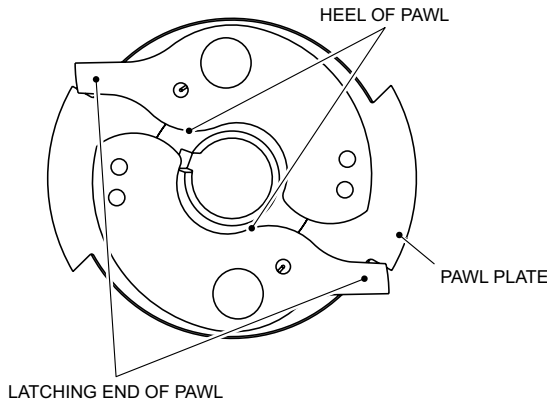

Figure 3.3.4C
- 11. Measure the clearance between the boss on the underside of each (2) impulse pawl and the pawl plate using a feeler gage. Position the latching end of the impulse pawl over the pawl plate as shown in Figure 3.3.4C.